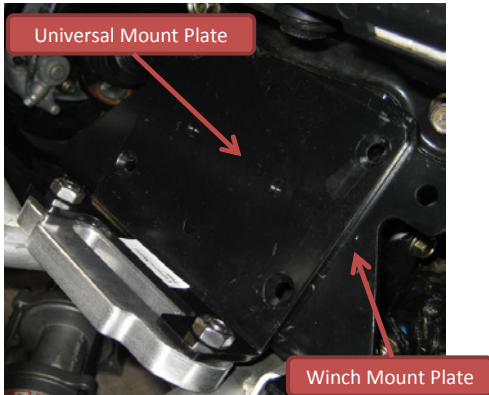

Figure 23
- Mount the aluminum hawse fairlead to the universal mountplate included in your winch box. (Figure 23).
- Set the fairlead and mountplate onto the winch mount plate shown in (Figure 23)